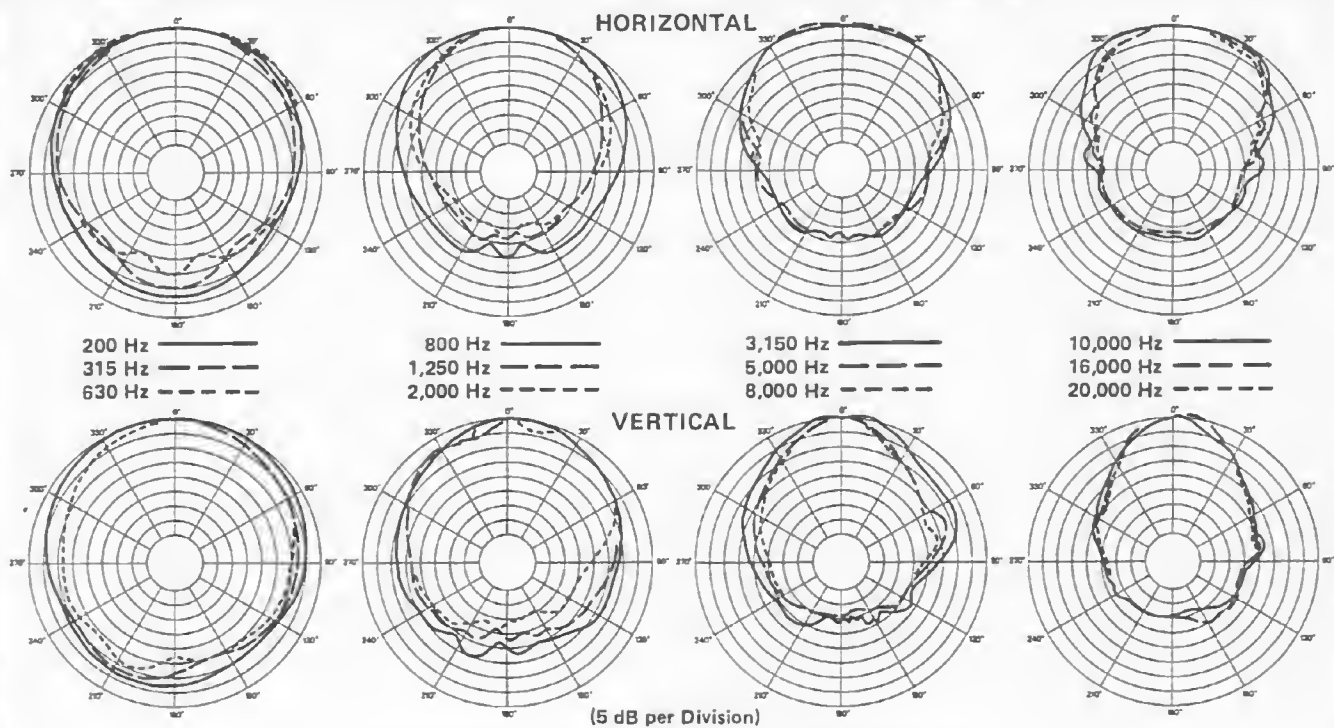
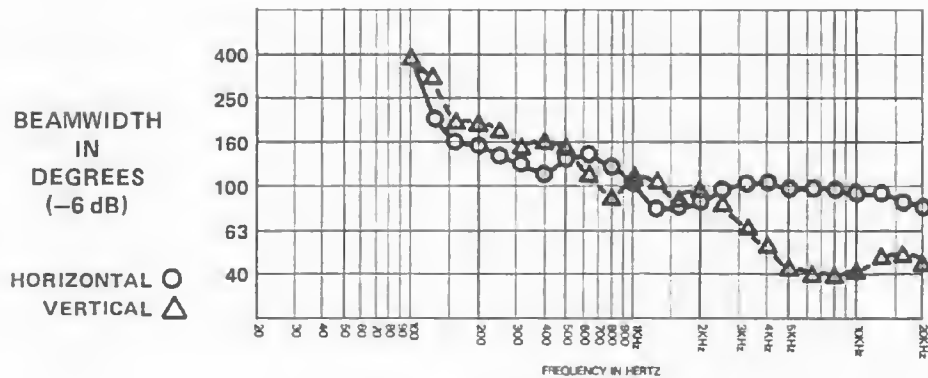
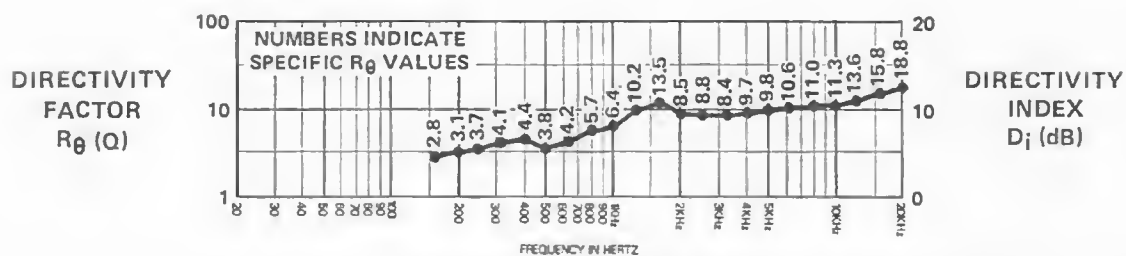

FIGURE 2 — Polar Response (1/3 octave pink noise
FIGURE 3 — Beamwidth vs Frequency
FIGURE 4 — Directivity vs Frequency
250-20,000 Hz Horizontal (see Figure 3):
5,000-20,000 Hz Vertical (see Figure 3):
Directivity Factor R_0 (0), 800-16,000 Hz Median (see Figure 4):
Directivity Index D_i , 800-16,000 Hz Median (see Figure 4):
A unique feature of the FR15-2 is the constant-directivity dispersion provided by the 90° x 40° horn. The polar response of the system at selected 1/3-octave bandwidths is shown in Figure 2. These polar responses were measured in an anechoic environment at 10 feet using 1/3-octave pink noise inputs. The frequencies selected are fully representative of the polar response of the system. Beamwidth of the system utilizing the complete 1/3-octave polar data is shown in Figure 3. $R_{\theta}(Q)$ and directivity index (D_i) are plotted in Figure 4.